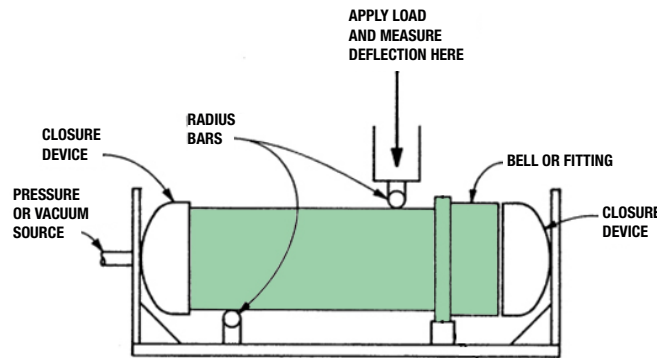

Figure 4 – ASTM D3212 Shear Deflection Test Setup (5% Ring Deflection)
- and an assembly with a pipe vertical ring deflection of 5% applied (Figure 4)